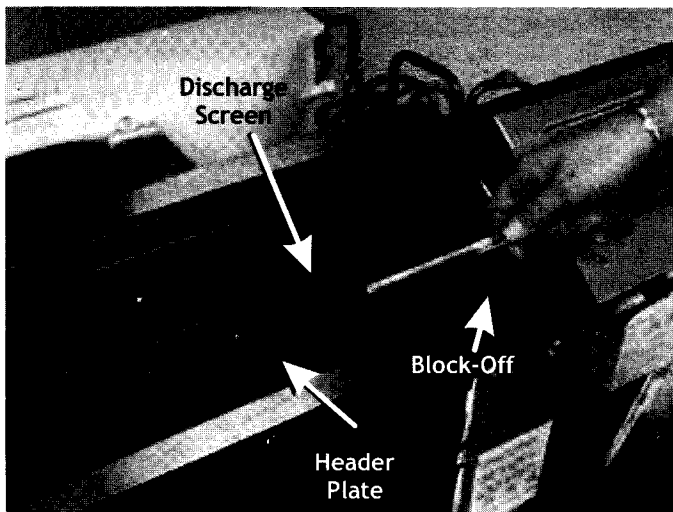

Figure 3
1. **Discharge Screen:** Using a 5/16" nut driver, remove the (4) black screws securing the discharge screen to the header plate. Remove the screen and set aside. Retain screws and screen for use in reassembly. See Figure 3.
2. **Block-Off:** Using a 1/4" nut driver, remove the (2) silver screws from the right side block-off bottom. Using a 5/16" nut driver, remove the black screw from the top left corner of the block-off. Remove the block-off and set aside. Retain screws and block-off for use in reassembly. Figure 3.
3. **Header Plate:** Using a 1/4" nut driver, remove the silver screw securing the left side of the header plate to the PTAC unit. Figure 3.